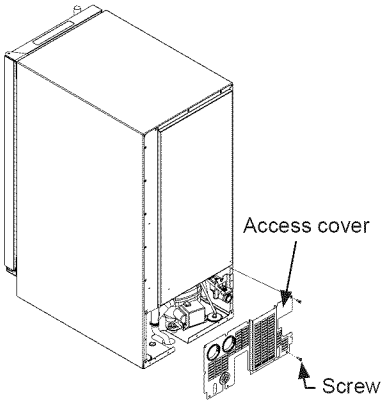

Figure 3
- Remove the access cover from the rear of the ice machine (Figure 3).